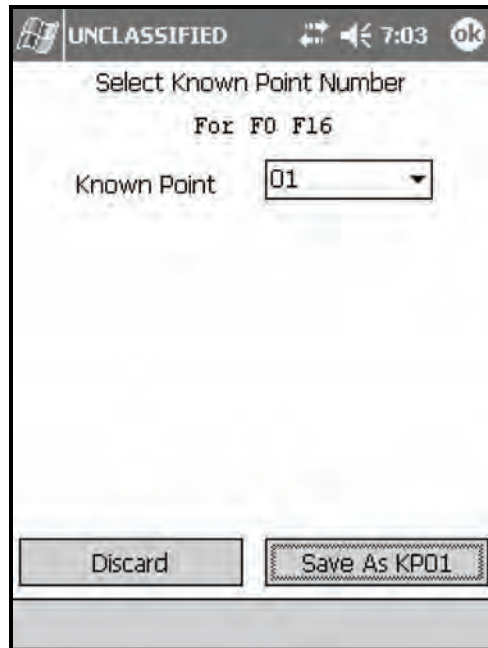

Figure 18-35. Digital Fire Mission: Select Known Point Number screen.
- (62) Await the next message.
- (63) Select the message to review it.
- (64) Select OpAck to acknowledge receipt of the message and turn off the audio alarm.
- (65) Select the message again.
- (66) Select Process.
- (67) The Select Known Point Number screen displays (Figure 18-35).